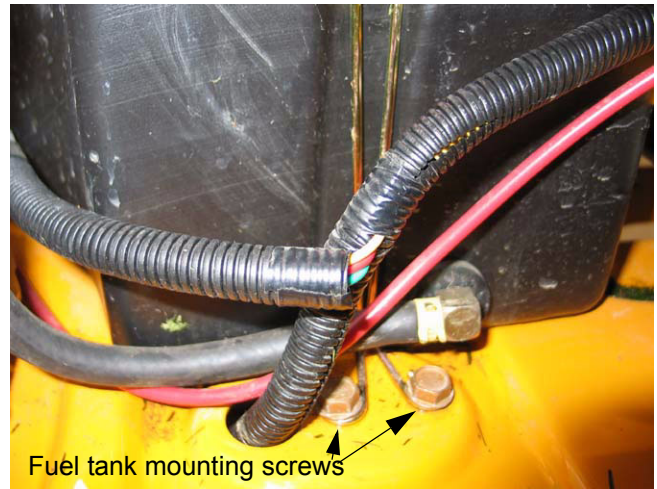

Figure 12.3
- 12.3. Remove the two screws securing the fuel tank mounting wire to the frame using a 1/2” socket. See Figure 12.3.